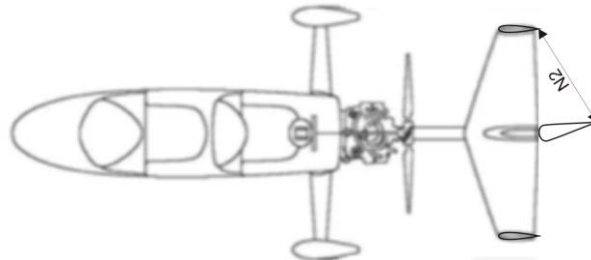

Fig. 1 - Rudder control angle setting
- 3 Check/adjust N2 = 860 mm (+/- 10 mm). See Fig. 1 for reference.